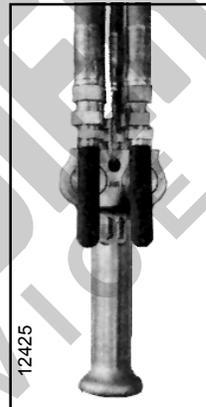

Figure 3-1. Pendant Throttle Control Handle
3-1. GENERAL. Operation of BUDGIT Series 6000 Air Hoists is controlled by a pendant throttle control. The Pendant Throttle Control has a convenient lever type control valve handle (Figure 3-1) suspended from the control manifold.
- Depress throttle valve lever marked ↑ to raise load. See Figure 3-1.